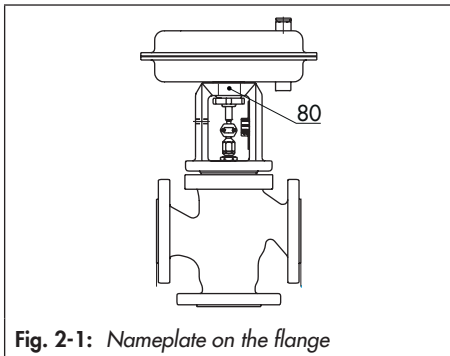

Fig. 2-1: Nameplate on the flange
The valve nameplate (80) is affixed to the flange (see Fig. 2-1).